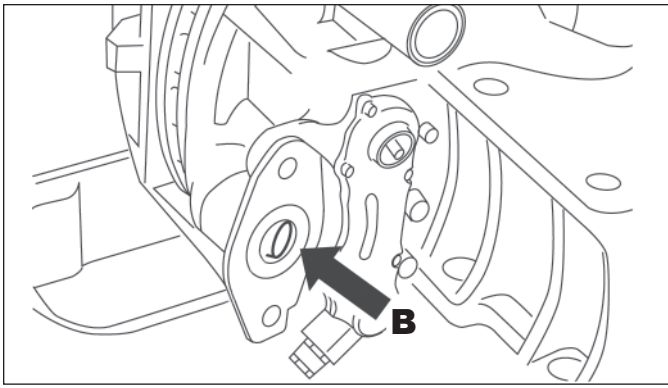

Figure 11 – Spring Brake Installation
1. Ensure the spring brake chamber mounting area is clean and free of any debris. (See **B** in Figure 11).